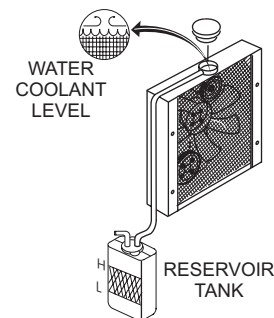

Figure 14. Check Coolant Level
2. Check coolant level daily (Figure 14) and change yearly.